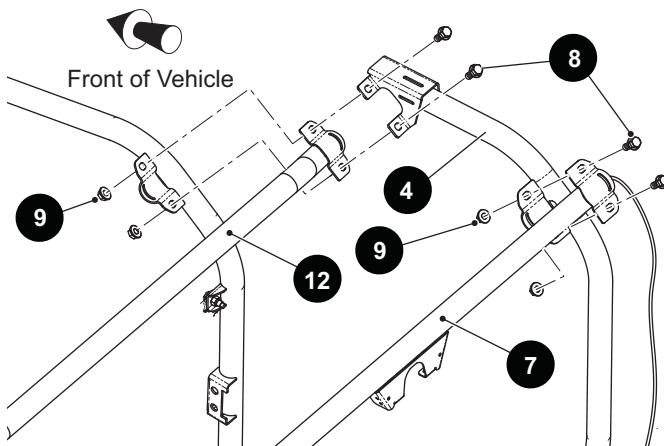

Fig. 2
2. Repeat the above steps for installing the passenger side extended cab ROPS tube (6).
3. Do not install the top bracket hardware of the extended cab ROPS tube (4 and 6) until the rear cross-tube (12) has been installed (Ref. Fig. 2).
1. Slide the ends of the cross-tube (12) in between the ROPS tube mounting brackets (1 and 4) and align the mounting holes of all three brackets (Ref. Fig. 1)(Ref. Fig. 2). From the top, insert bolts (8) into the mounting holes, and secure with lock nuts (9). Finger tighten bolts to allow for adjustment.